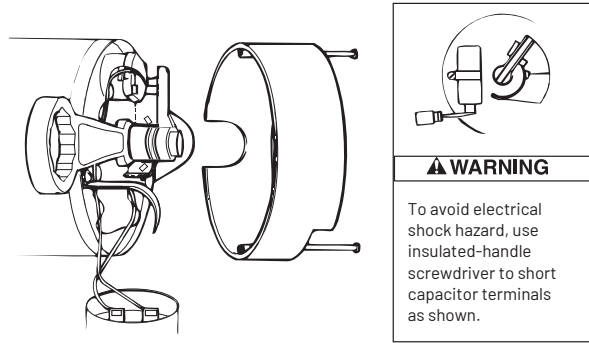

FIGURE 13 - HOLD SHAFT
4. If impeller must be replaced, loosen two machine screws and remove motor canopy (Figure 13).
5. **WARNING CAPACITOR VOLTAGE MAY BE HAZARDOUS.** To discharge capacitor, hold insulated handle screwdriver **BY THE HANDLE** and short capacitor terminals together (Figure 13). Do not touch metal screwdriver blade or capacitor terminals. If in doubt, consult a qualified electrician.